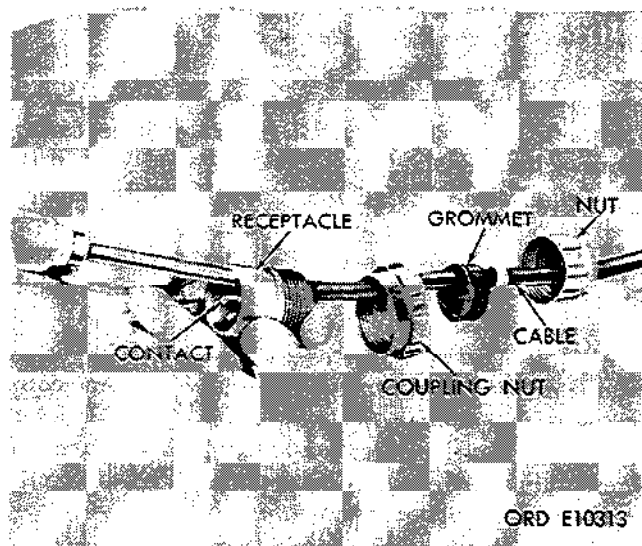

Figure 2-179. Unscrew coupling nut and push contact out of receptacle.
(2) Slide nut and grommet away from receptacle. Unscrew spanner coupling nut and slide nut away from receptacle. Use suitable tool and push contact out of receptacle assembly (fig. 2-179).